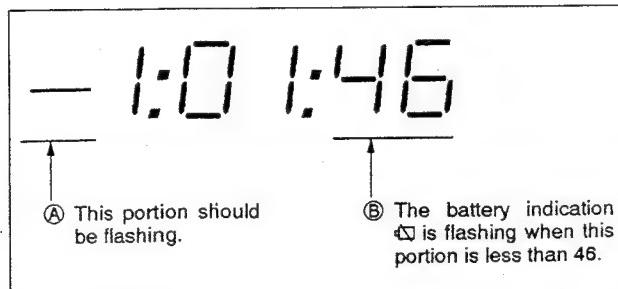

Fig. 6-5.
- 5) Set the LCD counter indication on the adjustment remote controller to the switching position between "-1:01:46" and "-1:01:47" using RV101 on the DD-30 board. (Refer to Fig. 6-5.)